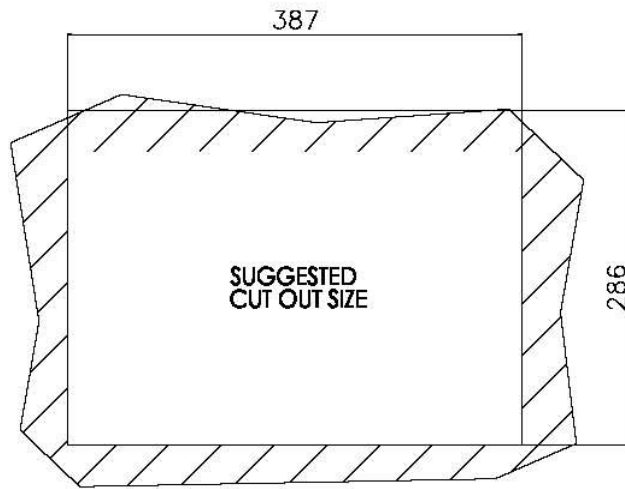
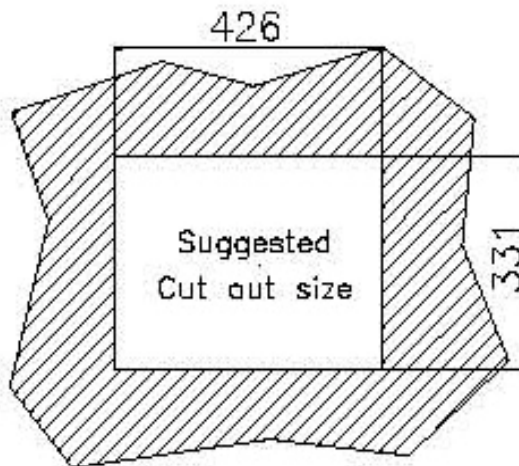
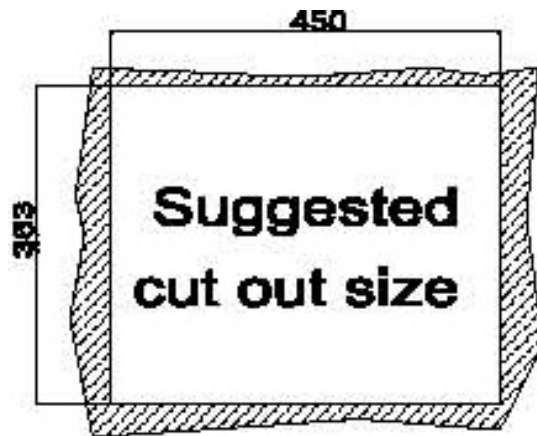

Figure 3-25: PPC-5150A-H61 Panel Cutout Dimensions
Figure 3-26: PPC-5170A-H61 Panel Cutout Dimensions
Figure 3-27: PPC-5190A-H61 Panel Cutout Dimensions
Step 2: Cut out a section of the panel that corresponds to the rear panel dimensions of the PPC-51xxA-H61. The recommended cutout sizes are shown below (Figure 3-25, Figure 3-26 and Figure 3-27).